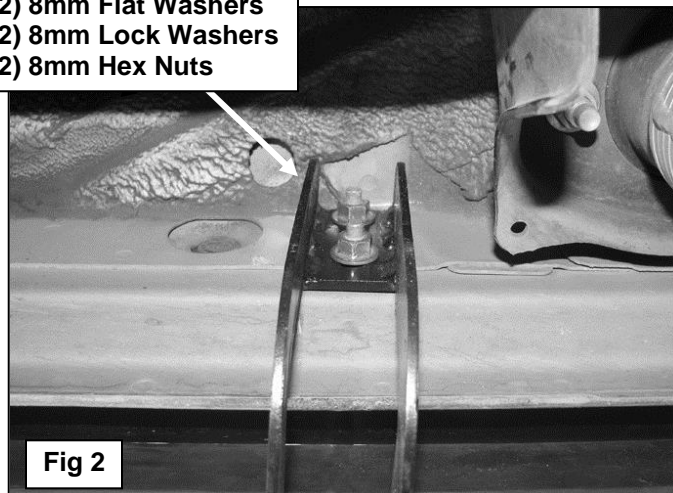

Fig 2
2. Locate the threaded studs on the inner body panel, **(Figure 1)**. Select (1) Mounting Bracket and hang it from the front mounting location, **(Figures 2 & 3)**. Secure it with the included (2) 8mm Flat Washers, (2) 8mm Lock Washers and (2) 8mm Hex Nuts. Snug hardware but do not tighten at this time.
3. Repeat **Step 2** for the driver side Center and Rear Mounting Bracket installation, **(Figures 2 & 3)**.